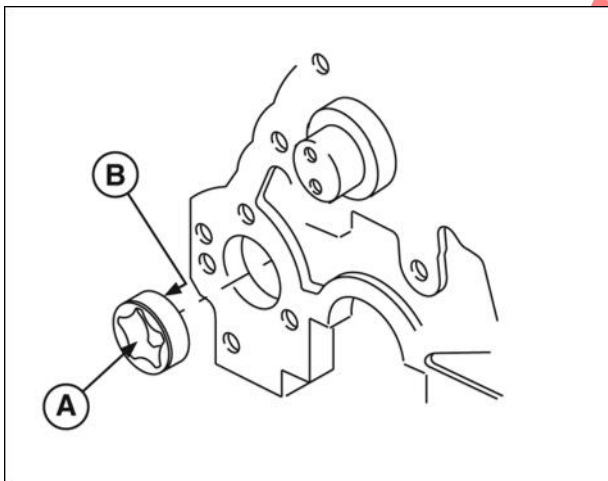

Figure 10
1. Lubricate oil pump rotor (A, Figure 10) with engine oil and install in cylinder block.
- ID mark (B) on rotor must face cylinder block.